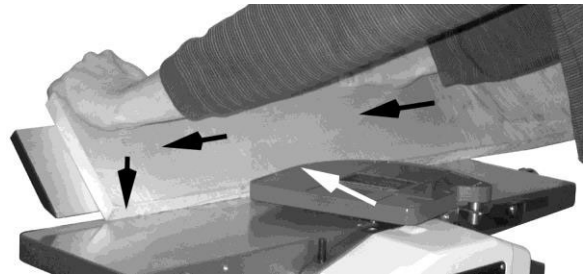

Figure 11-6
5. Feed the stock through the cutterhead, making sure the face of the stock is completely flat against the fence and the edge is making solid contact on the infeed and outfeed tables (Figure 11-6).